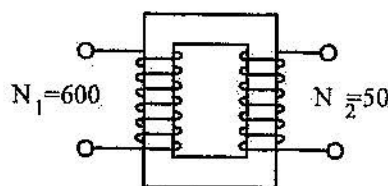

Figure 2
17. The diagram of figure 2 represents a transformer with input (primary) and output (secondary) turns as shown. The coils are linked by a common core flux of 25mWb, which is reduced to zero in 5mS. Determine the voltage induced in both coils. ($V_1=3kV; V_2=250V$)